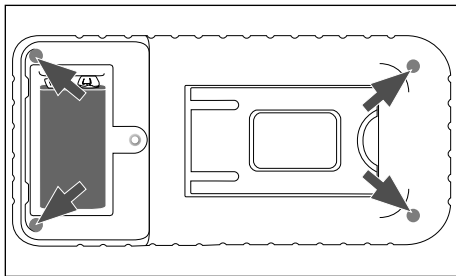

Fig. 5
- ◆ Loosen the top screw on the back of the device with the supplied screwdriver ⑦ and remove the battery cover by sliding it upwards (see section *Inserting/replacing the battery*). Loosen the four screws at the back of the device and remove the back panel (see Fig. 5).